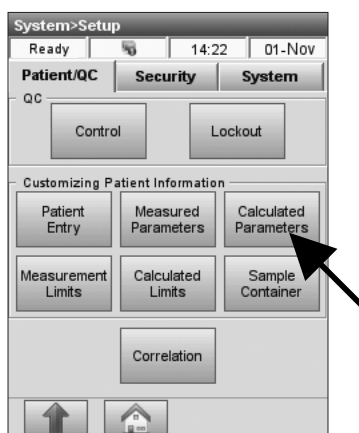

Fig. 3-30 Calculated Parameters
- Base excess (BE)
- Buffer bases (BB)
2. On the **<Patient/QC>** tab, press **<Calculated Parameters>** (Fig. 3-30).